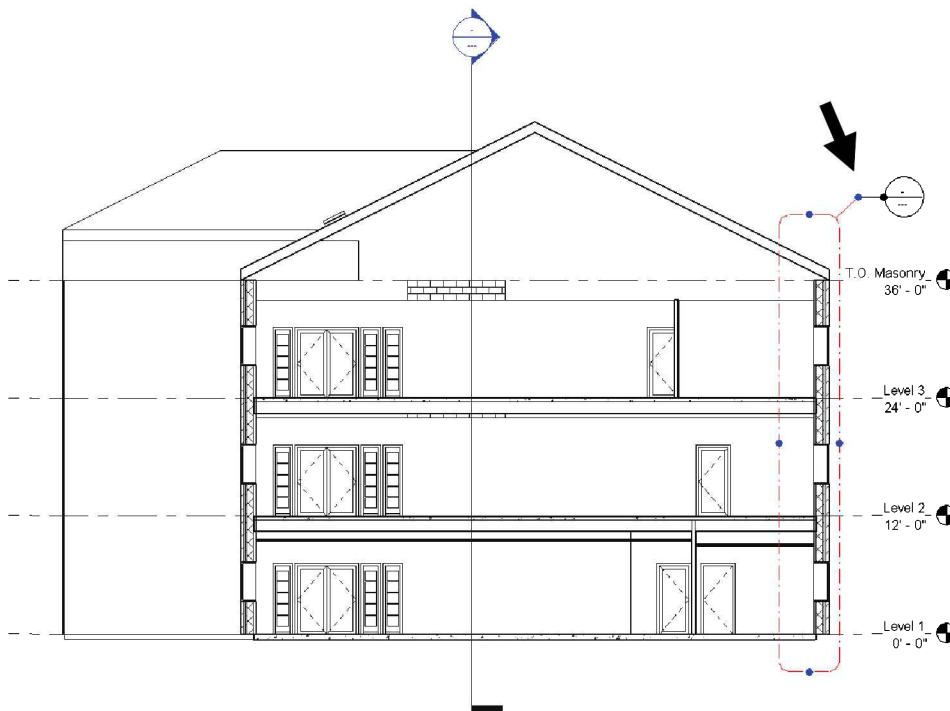

FIGURE 10-3.1 Cross Section 1 view with Callout added
4. Place a **Callout** tag as shown in Figure 10-3.1.
5. Use the *Control Grips* for the *Callout* tag to move the reference bubble as shown in Figure 10-3.1.